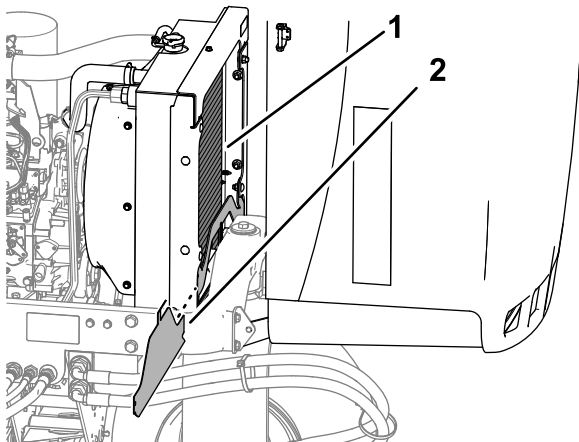

Figure 72
4. Remove the lower radiator shield (Figure 72).
5. Clean both sides of the radiator area thoroughly with water or compressed air (Figure 72).